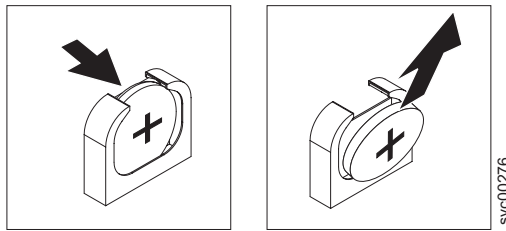

Figure 109. SAN Volume Controller 2145-8G4 CMOS battery holder
5. Remove the CMOS battery, as shown in Figure 109: